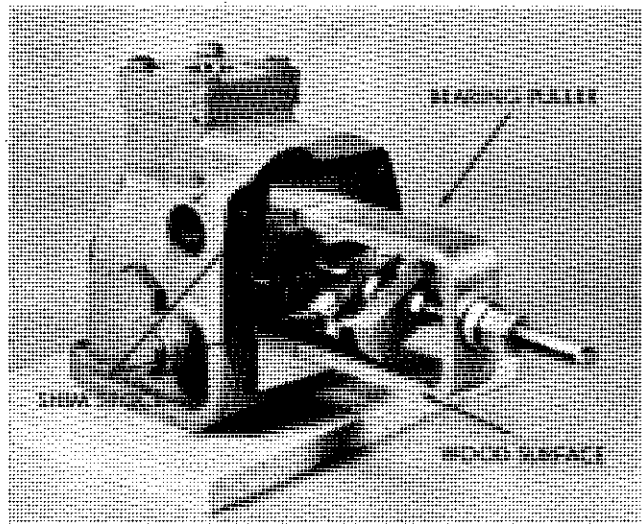

Figure VI-37. Removal of Bearings from Valve Plates
17. Removal of Bearings from Valve Plates (Figure VI-37)